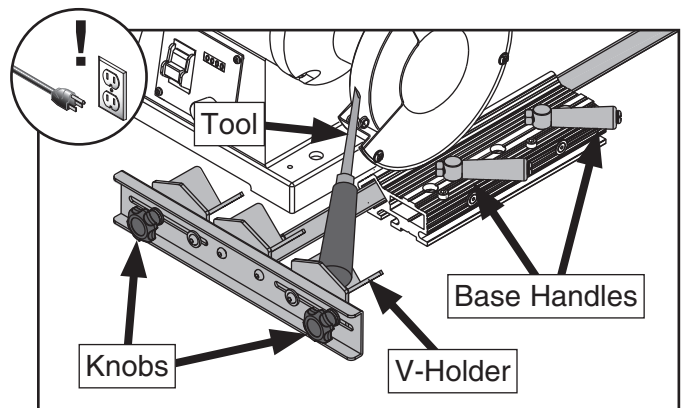

Figure 3. Example of tool supported by long arm.
2. Place woodturning tool handle in desired V-holder (see **Figure 3**).
Note: Loosen knobs shown in **Figure 3** to adjust outside V-holder positions.
3. Adjust long arm until entire bevel of tool contacts grinding wheel, then secure position by pulling base handles forward (see **Figure 3**).